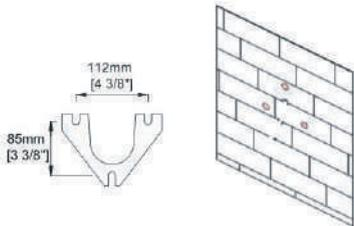

Fig.1
2. Drill mounting holes for fixture as shown in Fig. 1.